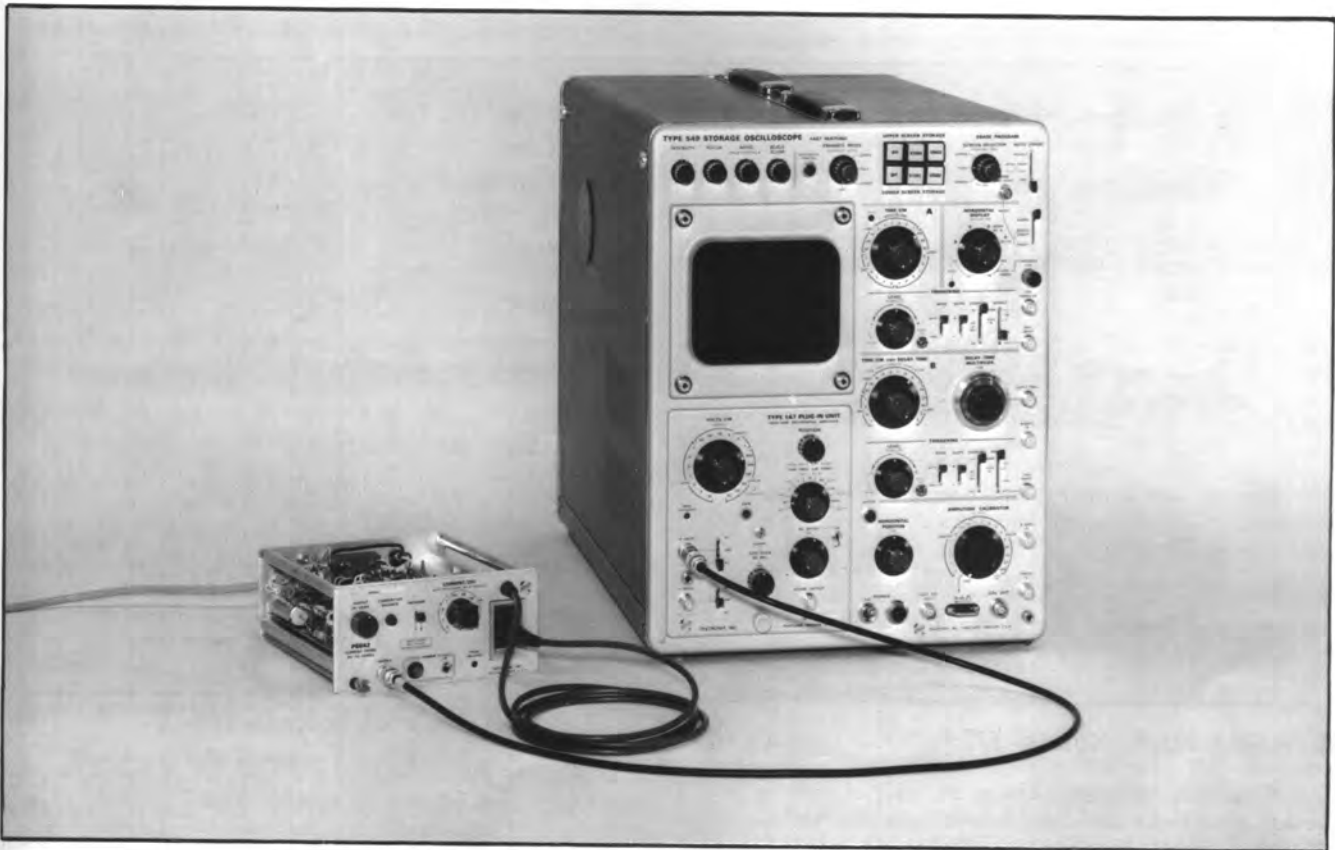

Fig. 6-6. Test setup for steps 6 through 9.
6. Adjust Output DC Level Range (R93) ①
- a. Remove the 1 \times probe and connect the 50 Ω termination to the + Input connector. Connect a 50 Ω cable from the P6042 OUTPUT to the termination. See Fig. 6-6.
- a. Reconnect the P6042 OUTPUT, terminated in 50 Ω, to the oscilloscope input. See Fig. 6-6.